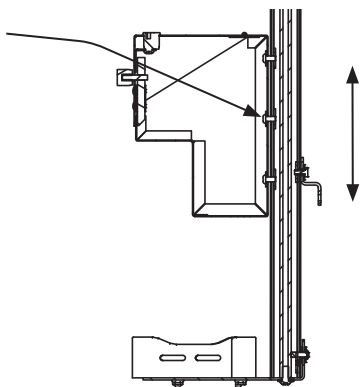

Fig. 6
- A. Open the lock box and loosen the bolts with a $7/16$ " socket and extension wrench to adjust the box up or down as needed. (Swivel attachment is required) Install supplied black felt over bolts when box position has been fixed. (See Fig. 6)